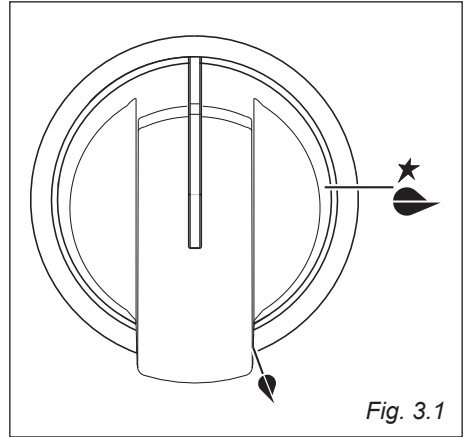
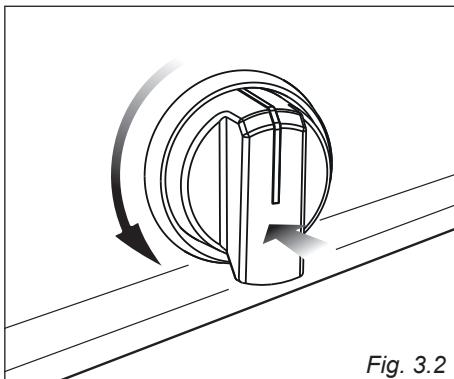

Fig. 3.1
Fig. 3.2
Gas flow to the burners is adjusted by turning the knobs (illustrated in fig. 3.1) which control the safety valves. Turning the knob, so that the symbols printed on the knob itself point to the symbol printed on the control panel, achieves the following functions:
1. Press in the corresponding knob and turn counter-clockwise (fig. 3.2) to the full flame position marked by the  symbol (fig. 3.1) and hold the knob in until the flame has been lit.